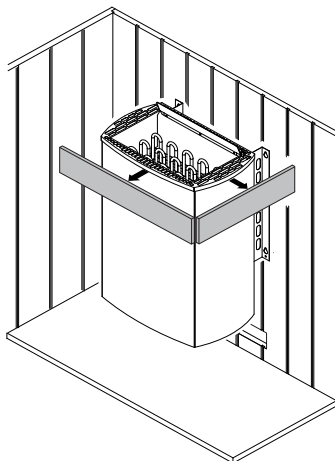

Fig. 2
- The height of the protective grating for the heater must approximately correspond to the front height of the heater (Fig. 2).